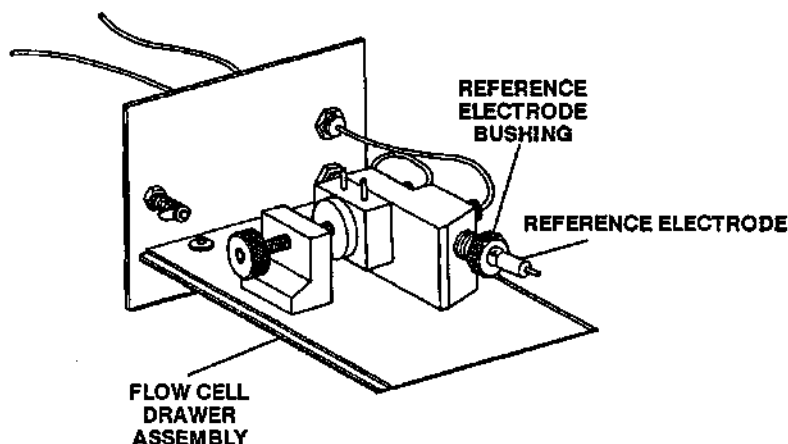

Figure 6-2 Removing Reference Electrode From Flow Cell
3. Loosen the nylon reference electrode bushing, and remove the reference electrode from the side of the flow cell top (Figure 6-2).